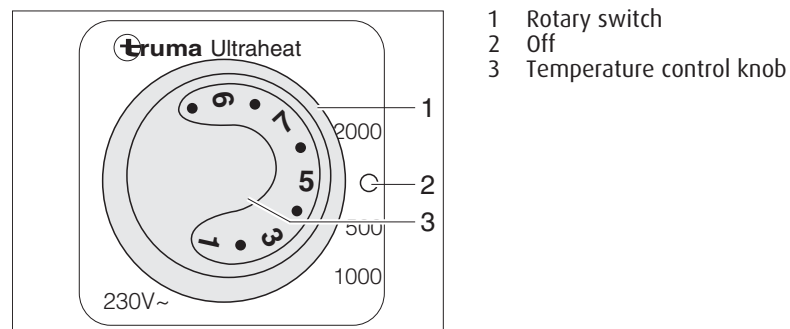

Fig. 116 Operating unit for Ultraheat additional electric heater
- Turn the rotary switch (Fig. 116,1) to the desired output level (500, 1000 or 2000 W).
- Turn the temperature control knob (Fig. 116,3) to the desired output level.
- Set the rotary switch (Fig. 116,1) to "0" (Fig. 116,2).